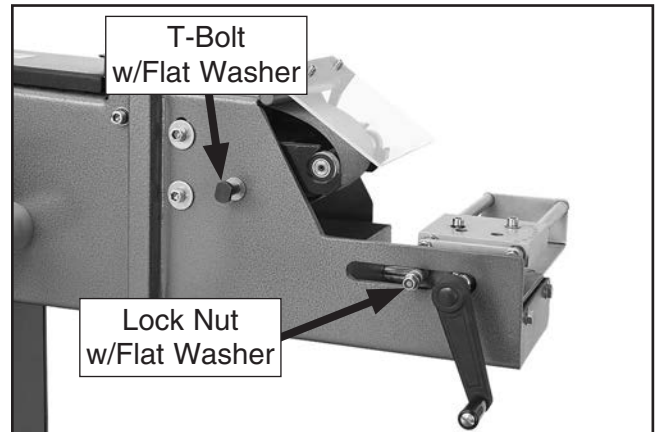

Figure 13. Locations of feed lever fasteners.
14. Remove pre-installed fasteners shown in **Figure 13**. These fasteners will secure feed lever assembly in next step.